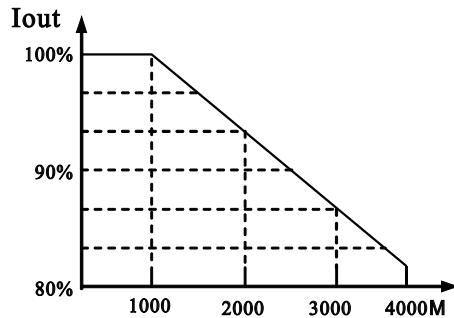

Figure 5-1 Diagram of Inverter Derating Curve
- Due to thin air in a place where the altitude is higher than 1,000m, the heat dissipation of inverter will be less effective. Hence derating should be done before use. In general, when the height rises by 1,000m, the rated voltage of the inverter shall reduce by 10%. Refer to Figure 5-1 for details of the derating curve.